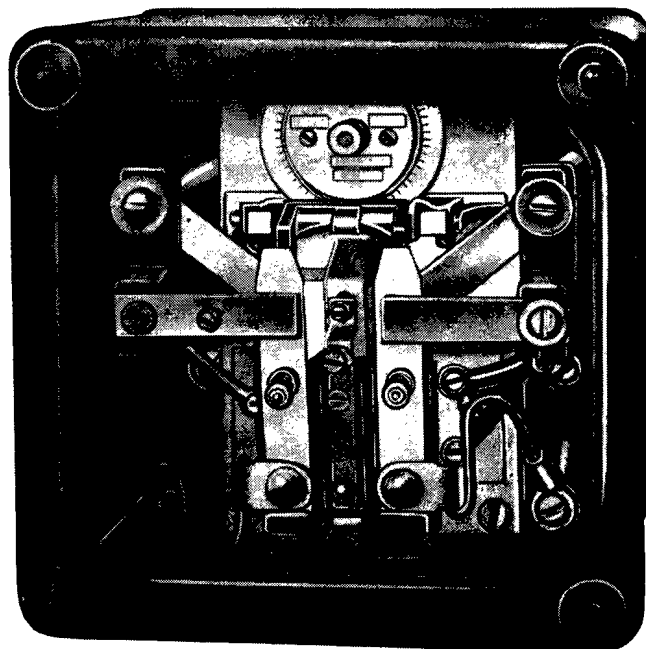

Figure 7-102. Time Delay Relay in Modulator
(1) Connect both grid straps for the blue antenna. Use only the lower grid strap and the corona balls for the yellow-green antenna. See step (1) of Par. 36d.
(2) Check the duplexer length as directed in step (2) of Par. 36d of this section.
(3) Check the duplexer spark gaps as directed in step (3) of Par. 36d of this section.
(4) Place the CONTROL switch (S-107) in its LOCAL position.
(5) Adjust the Transmitter A, B, and C controls as described in step (5) of Par. 36d of this section.
(6) Remove the dust cover from time delay relay K-2002 in the Modulator. See Fig. 7-102. When the equipment is received, the metal clappers will have supports to protect them during shipment. These supports must be removed before the equipment can be placed in operation. Check the sliding gear to see that it is set on the 5-minute scale. If it is not, move the sliding gear until the large gear is opposite the 5-minute index. Loosen the thumbnut on the discs and rotate them until their index pins are opposite the 5-minute mark. Then tighten the thumbnut and replace the dust cover.
(7) Place the EMERGENCY-MAIN POWER switch S-101, in its ON position. After five seconds, the time delay relay in the Transceiver will operate to permit d-c voltage to be applied to the Modulator